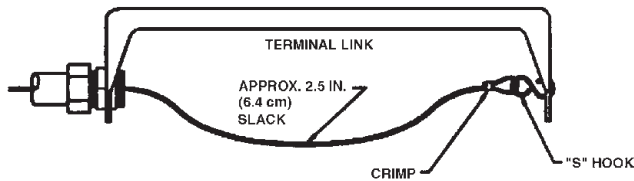

Figure 4.9. Terminal Bracket Connection.
► one continuous length. Allow approximately 2.5 in. (6.4 cm) of slack at each bracket for the installation of the Fusible Link Hangers. At the terminal link, a tight loop is made in the cable and secured by the crimp provided. The cable is attached to the far side of the terminal bracket using an “S” hook. The “S” hook must be crimped closed after the cable is installed. See **Figure 4-9**.